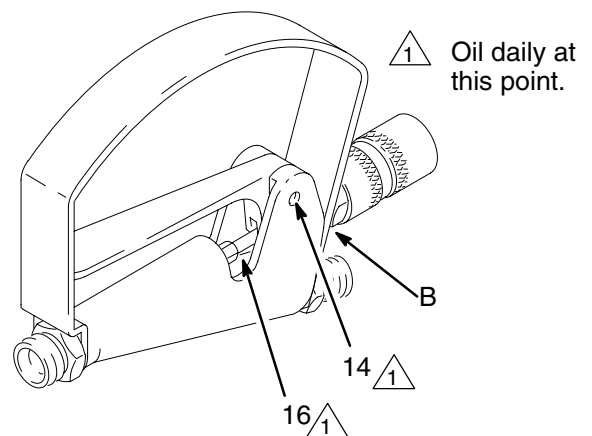
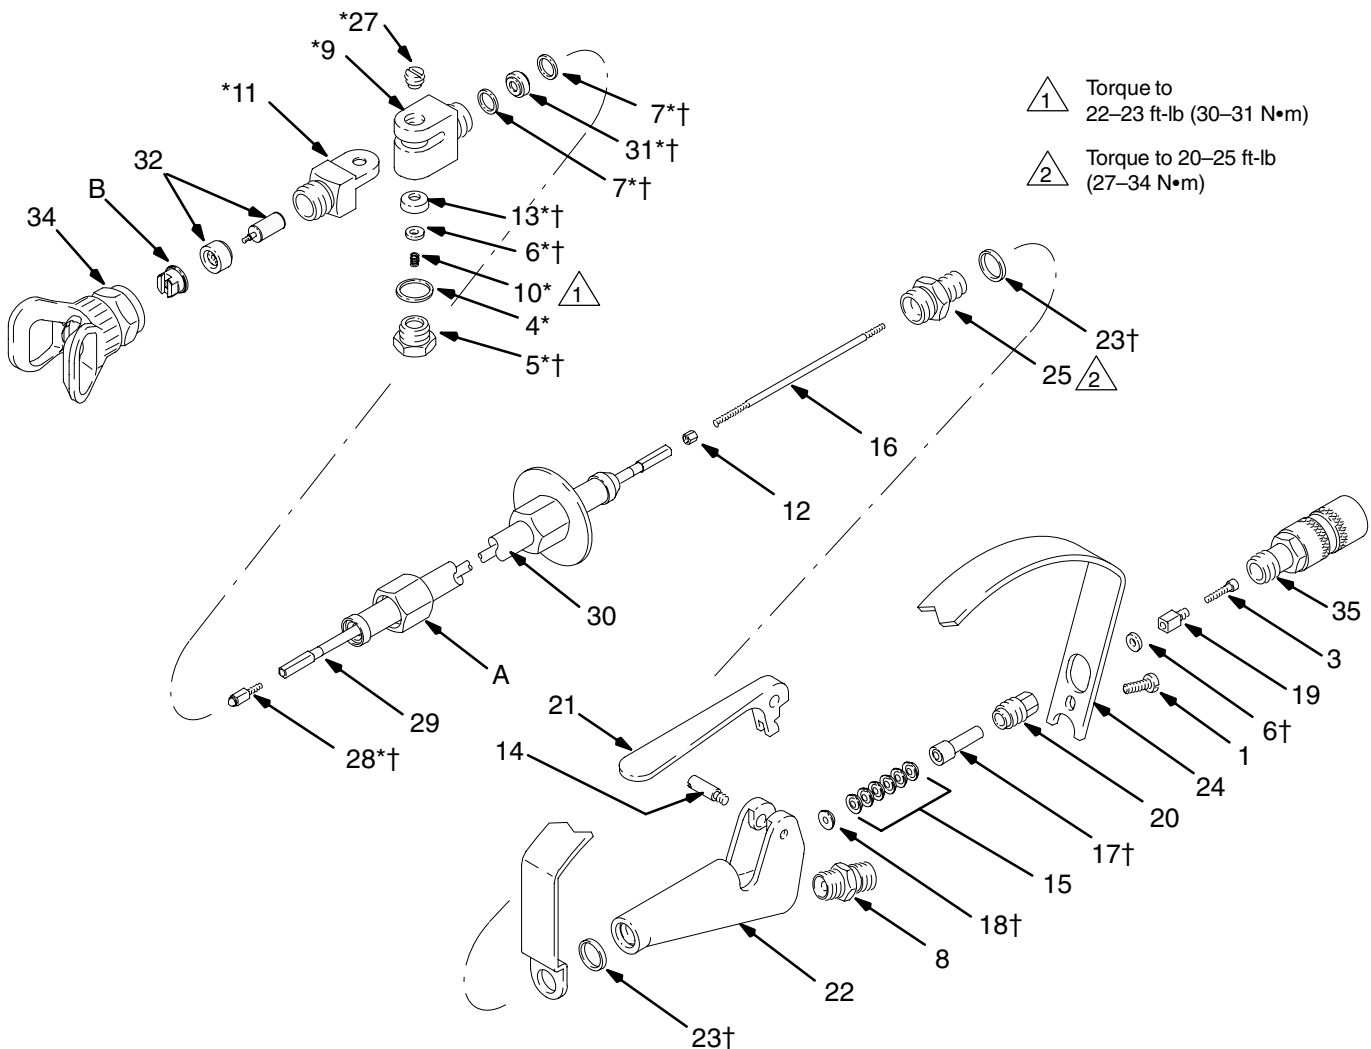

Fig. 4
Fig. 6
Turn the hex part of the trigger safety (B) in or out to adjust the trigger tension. See Fig 4.
Oil the exposed part of the valve rod (16) and trigger pivot (14) daily. See Fig. 4. Whenever you clean the gun, remove the tension adjusting screw (3), and pull out the valve rod. See Fig. 6, page 7. Clean and oil the exposed part of the valve rod all the way back to the packing screw (20).
3. Grasp the hex (C) of the safety knob (35) with an 11/16 inch open end wrench and unscrew the knob assembly from the gun body.
4. Squeeze the trigger to move the adjusting nut (19) out, and then loosen the cap screw (3). See Fig. 6. Unscrew the adjusting nut (19) just a few turns.
5. Push the adjusting nut forward as far as possible. You should feel the valve stem (28) contact the seat (31). This indicates proper contact to stop the flow of fluid.
6. Turn the adjusting nut (19) in until the proper free play is obtained. Squeeze the trigger to move the adjusting nut out and tighten the cap screw (3).
7. Screw on the safety knob (35).
2. Unscrew the extension tube nut (A) from the swivel housing (9*). Remove the valve seat (31*) and gaskets (7*). See Fig. 6.
4. Remove tip guard (34), tip (B), and tip fluid filter (32).
13. Install the screw (27) in the top of the swivel housing (9). Install the new seal (13†), washer (6†) and the spring (4). Place the new gasket (5†) on the access plug (10). Install the plug and torque it to 22 to 23 ft-lb (20 to 31 N•m).
14. Be sure the needle assembly is the correct length. See the DETAIL in Fig. 6. If adjustment is needed, loosen the nut (12) and screw the valve rod (16) in or out as needed. Tighten the nut (12).
15. Lubricate the smooth shaft of the valve rod (16). Insert the threaded end of the needle assembly through the front of the gun.
16. One at a time, slide the new male gland (18†) and six v-packings (15†) *–with the lips of the v-packings facing the front of the gun body–* onto the back of the valve rod (16). Slide the packings into the packing cavity. Insert the new female gland (17†) and press it gently into the packing cavity to help seat the packings.
17. Screw the packing screw (20) loosely into the cavity.
18. Install the trigger (21) and pivot (14).
19. Place a new washer (6†) on the valve rod and thread the adjusting nut (19) onto it. Hold the adjusting nut with an adjustable wrench. Thread the cap screw (3) a few turns into the nut.
20. Place a new gasket (23†) on each side of the front of the trigger guard (24). Screw the tube adapter (25) into the front of the valve. Torque the adapter to 20 to 25 ft-lb (27 to 34 N•m).
21. Slide the extension tube (30) over the needle assembly and screw it onto the tube adapter (25). Screw the tube nut (A) onto the swivel housing (9).
22. Tighten the packing screw (20) just enough to stop leakage; over-tightening results in leaking.